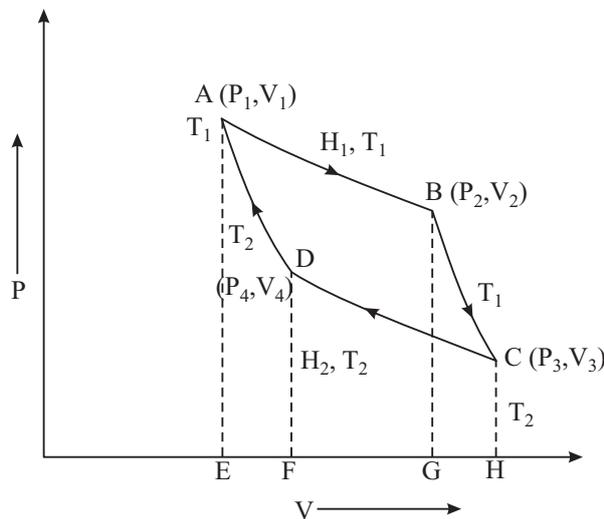
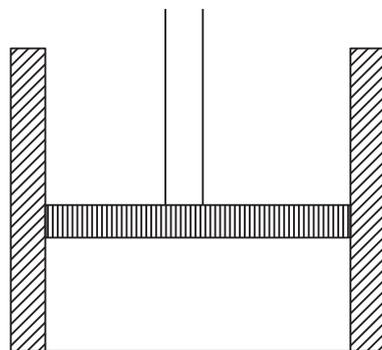

Fig. 11.4 : Indicator diagram of Carnot cycle
Fig. 11.5 : The cylinder with working substance
In Carnot cycle, the working substance is subjected to four operations : (a) isothermal expansion, (b) adiabatic expansion, (c) isothermal compression and (d) adiabatic compression. Such a cycle is represented on the P-V diagram in Fig. 11.4. To describe four operations of Carnot's cycle, let us fill one gram. mol. of the working substance in the cylinder (Fig. 11.5). Original condition of the substance is represented by point A on the indicator diagram. At this point, the substance is at temperature T_1 , pressure P_1 and volume V_1 .
- (a) **Isothermal expansion :** The cylinder is put in thermal contact with the source and allowed to expand. The volume of the working substance increases to V_2 . Thus working substance does work in raising the piston. In this way, the temperature of the working substance would tend to fall. But it is in thermal contact with the source. So it will absorb a quantity of heat H_1 from the source at temperature T_1 . This is represented by the point B. At B, the values of pressure and volume are P_2 and V_2 respectively. On the indicator diagram (Fig. 11.4), you see that in going from A to B, temperature of the system remains constant and working substance expands. We call it **isothermal expansion process**. H_1 is the amount of heat absorbed in the isothermal expansion process. Then, in accordance with the first law of thermodynamics, H_1 will be equal to the external work done by the gas during isothermal expansion from A to B at temperature T_1 . Suppose W_1 is the external work done by the gas during isothermal expansion AB. Then it will be equal to the area ABGEA. Hence
- (c) **Isothermal compression :** Remove the cylinder from the non-conducting stand and place it on the sink at temperature T_2 . In order to compress the gas slowly, increase the load (pressure) on the piston until its pressure and volume become P_4 and V_4 , respectively. It is represented by the point D on the indicator diagram (Fig. 11.4). The heat developed (H_2) due to compression will pass to the sink. Thus, there is no change in the temperature of the system. Therefore, it is called an isothermal compression process. It is shown
by the curve CD (Fig. 11.4). The quantity of heat rejected (H_2) to the sink during this process is equal to the work done (say W_3) on the working substance. Hence
- (d) **Adiabatic compression** : Once again place the system on the non-conducting stand. Increase the load on the piston slowly. The substance will undergo an adiabatic compression. This compression continues until the temperature rises to T_1 and the substance comes back to its original pressure P_1 and volume V_1 . This is an adiabatic compression process and represented by the curve DA on the indicator diagram (Fig. 11.4). Suppose W_4 is the work done during this adiabatic compression from D to A. Then